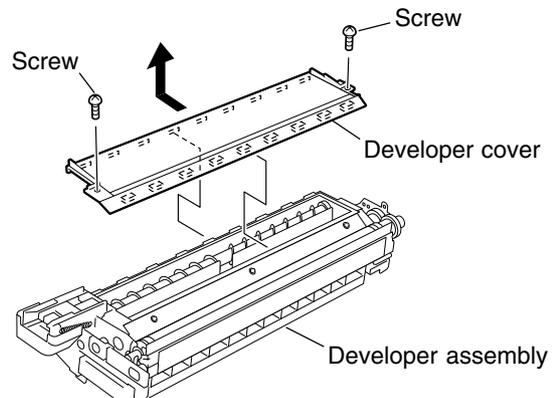

Fig. 3-4-16
9. Detach the developer cover. (See Fig. 3-4-16.)